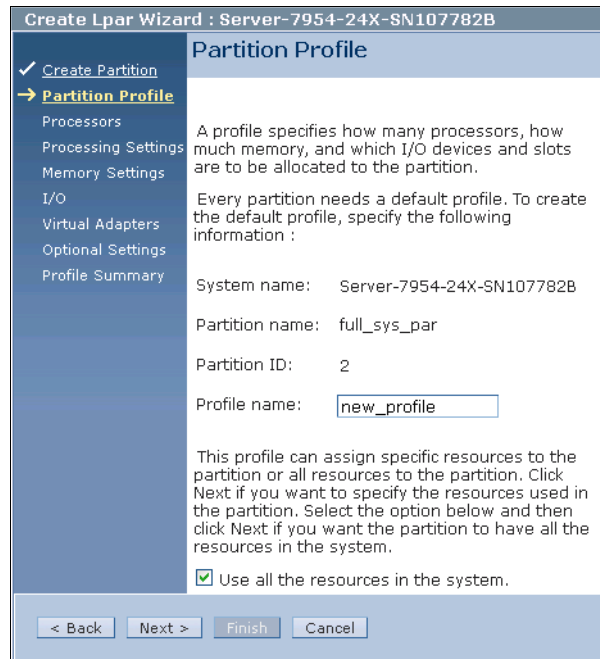

Figure 8-87 Assigning all resources to a full system partition with HMC
4. The Partition Profile window opens, as shown in Figure 8-87. Complete the fields with the following information: